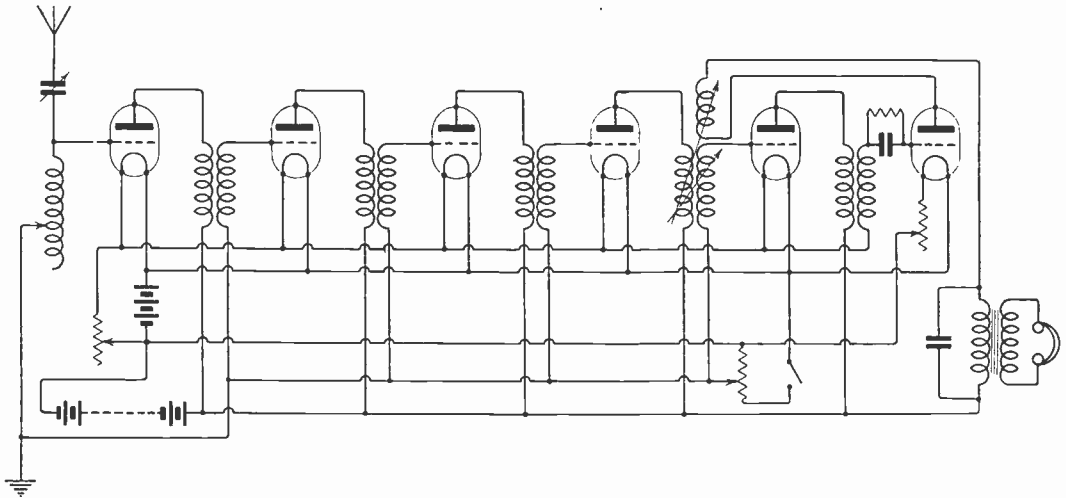
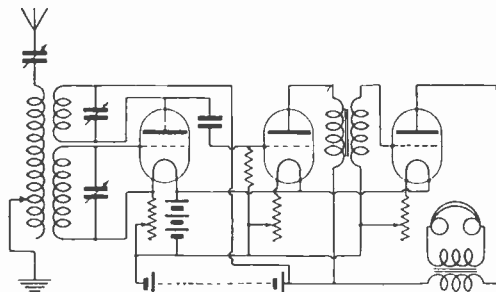

Fig. 2.
Fig. 3.
(1) It is difficult to receive PCGG in London with a three-valve set and frame aerial. At least six will be required, the circuit being on the lines of Fig. 2, of the issue referred to. For PCGG the aerial might have sides of 5', with about 10 turns, spaced $\frac{1}{4}$ " apart. More turns might be added if desired for FL and similar stations.
"W.H.G." (London).—The usual method of using a three coil tuner is as shown in, say, Fig. 2, page 705, August 26th issue, although this method is not likely to be allowed very much longer. Particulars regarding types of transformers, etc., will be found in these columns in various recent issues. We regret that we have not sufficient space to collect these here into one reply. You can also find many constructional details in articles on special sets, as, for instance, the four-valve station described in the July 15th and following issues. See also Fig. 3, below.
(1) 6" x 4" of No. 22, secondary 5" x 3" of No. 26. (2) The arrangement of your Fig. 3 is the best for these wavelengths. (3) The circuit referred to is of the type suggested as an alternative.